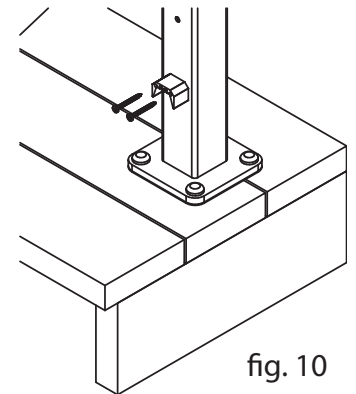

fig. 10
6) Mount RCBs (fig.10): Identify the RCB (Rail connection block) pre drilled holes on the installed posts. Install the RCB with two #10 x 1-3/4" pan head Tek screws. The flanges on the Rail Connection Block should be facing down.